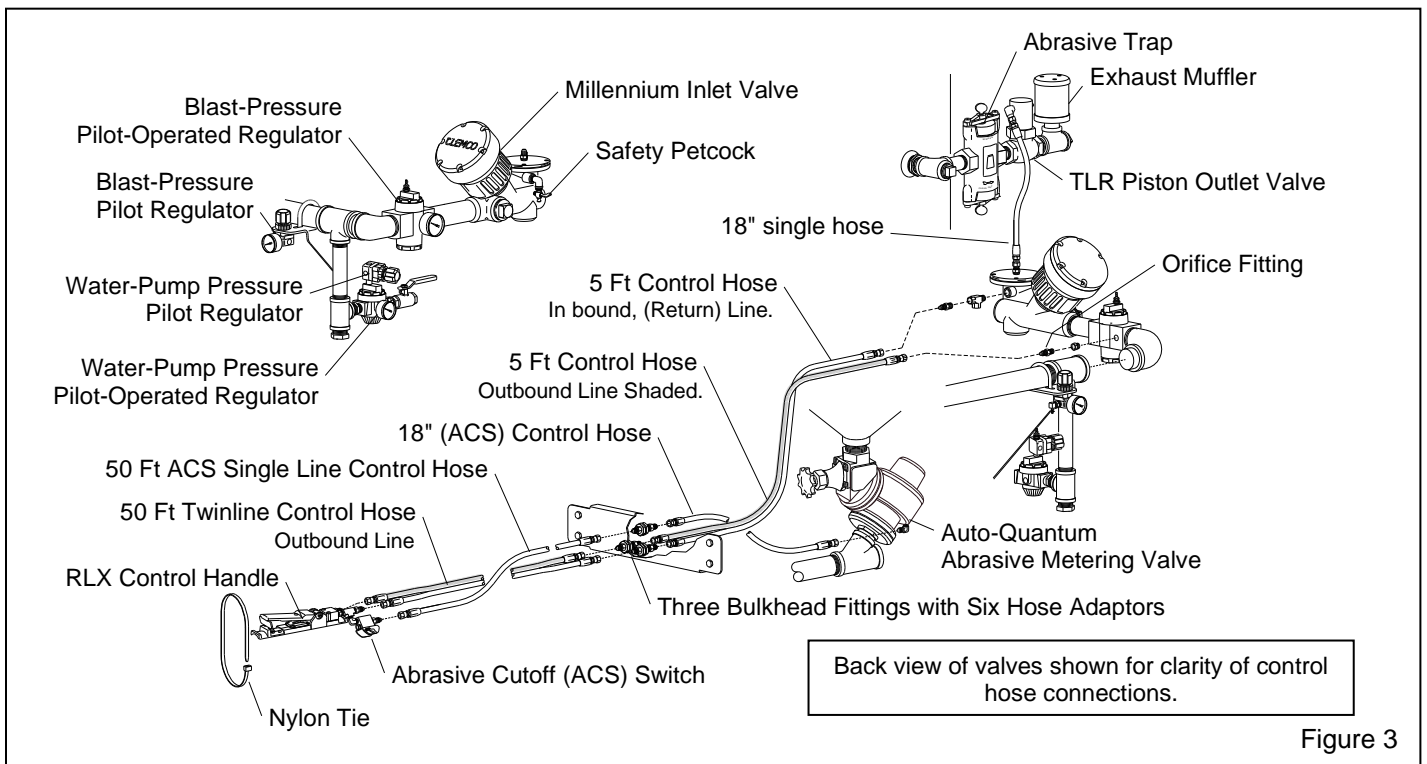

Figure 3
1.6.2.4 Clemco remote controls operate pneumatically on return air. Control air travels from the orifice fitting located on the inlet end of the blast-pressure regulator, down the outbound line (shown shaded in Figure 3) and escapes through the opening located under the RLX control handle lever. The normally-closed inlet valve remains closed, and the normally-open outlet valve remains open. As long as air escapes through the handle’s opening, the remote control system remains dormant.